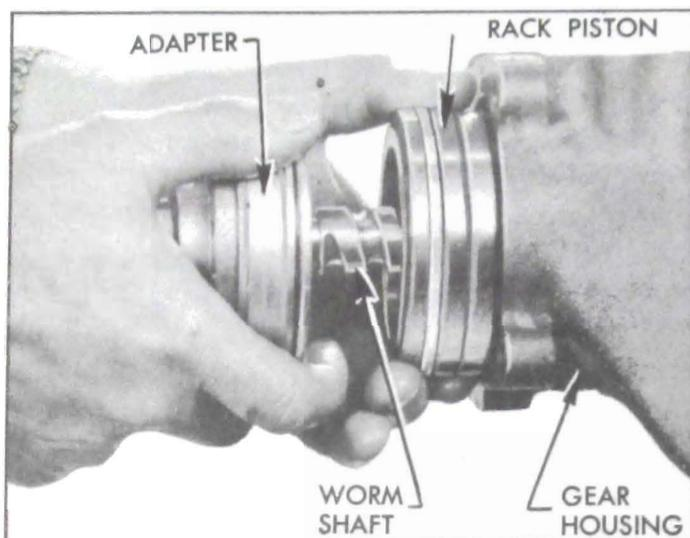

Figure 8-26—Removing Rack-Piston and Worm Assembly
5. Remove four loose centering springs and pull rack-piston and worm assembly out of housing. See Figure 8-26.